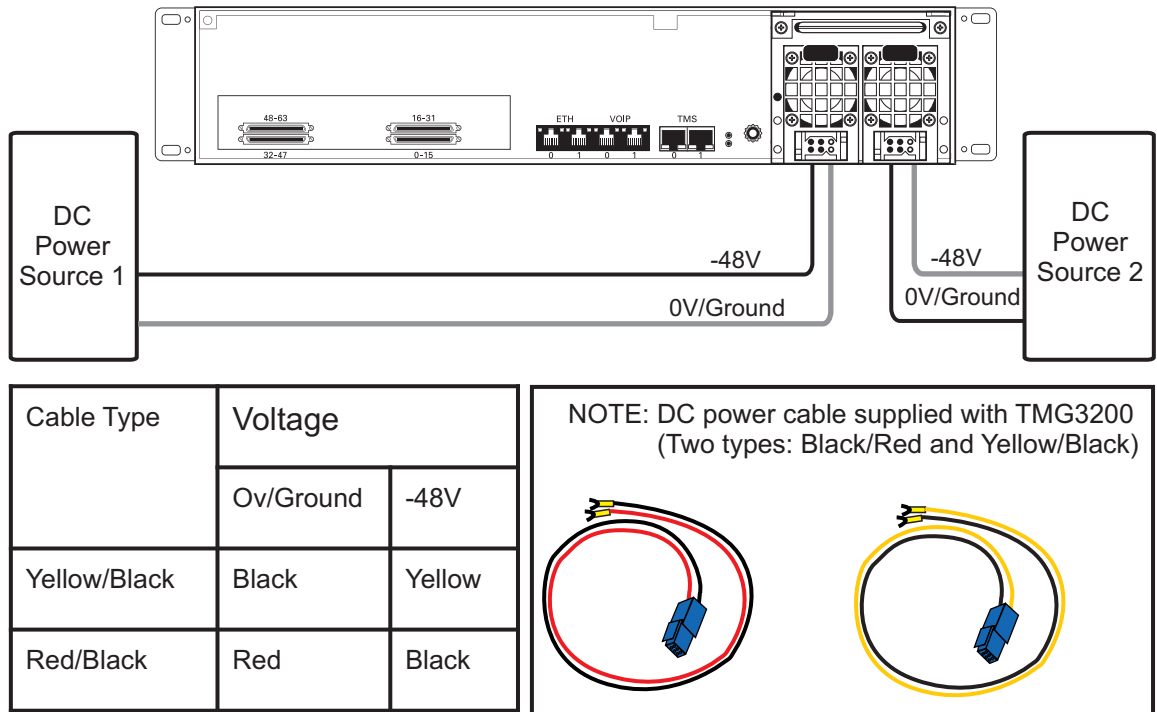

Figure 2.13 DC Power Connection
1. Connect one DC cable, supplied with the TMG7800 Telecom Unit, as shown in figure 2.13 on page 28, to the DC outlet at the rear of the TMG7800 Telecom Unit.
**Note** Two types of cable with different coloring are available. Refer to figure 2.13 on page 28 for the appropriate wiring information.